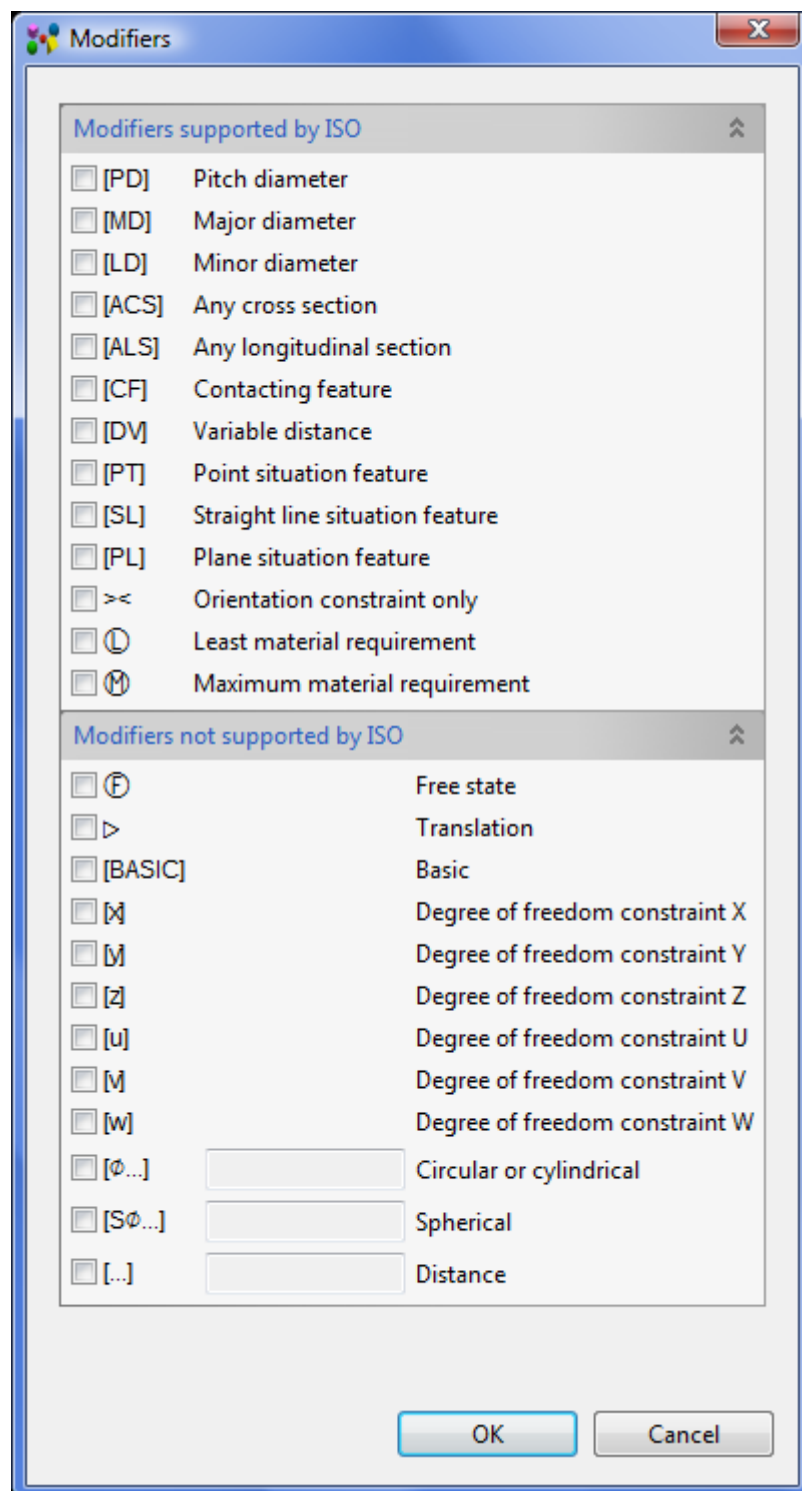

Figure 3. Modifiers dialogue window
- You can specify a modifier for each datum feature by pressing on the small square next to the datum feature combo box. The **Modifiers** dialogue window appears on the screen (see Figure 3). The dialogue window contains two sections **Modifiers supported by ISO** and **Modifiers not supported by ISO**. You can collapse or expand those sections by using double arrows next to the section label or just by clicking on the label. To select an applicable modifiers, set a check mark in front of a needed modifier. **Note.** In some cases, i.e. *Modifiers not supported by ISO*, *Distance* modifier, additionally the number value should be specified in the text field. Press **OK** button to confirm selections and close the window. Selected modifiers appear next to the particular datum feature field.